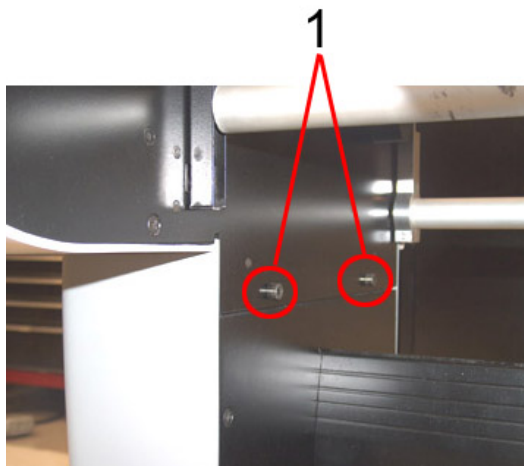

Figure 9. Two screws attaching Head Unit and Crossbeam
7. Place the **Head Unit** on top of the two side columns. Screw in the left and right screws to attach (Figure 9). Repeat on the opposite side.